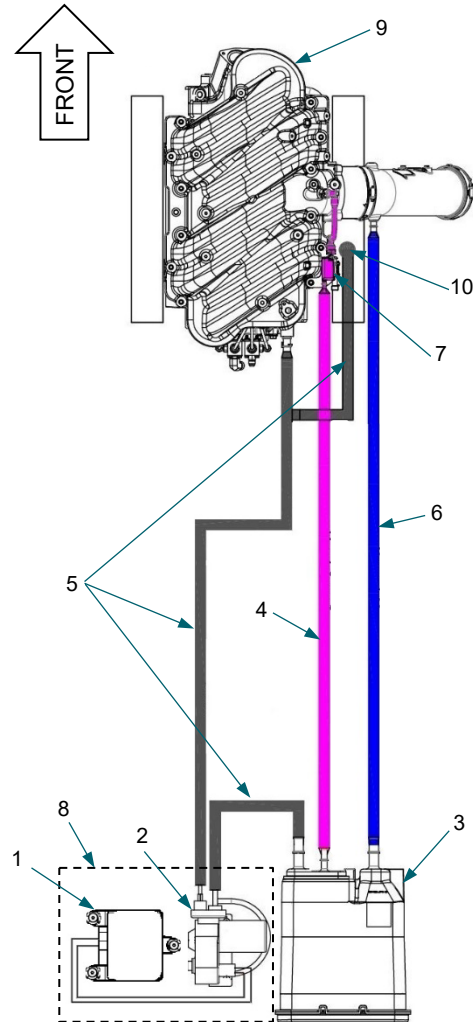

Figure 1:
5. Verify PCV Line (5) connections at PCV Valve (10) and rear Upper Intake Manifold fitting (11) are securely fastened. *Figure 1*